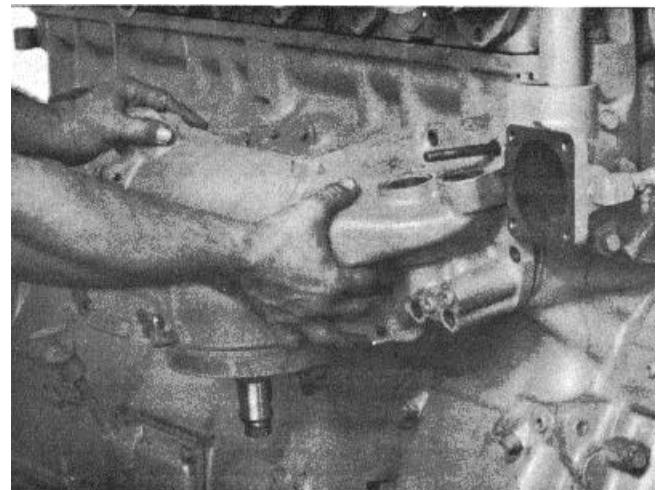

Fig. 14-79. Install The Oil Cooler Assembly.
3. Install the oil cooler assembly onto the cylinder block, Fig. 14-79.